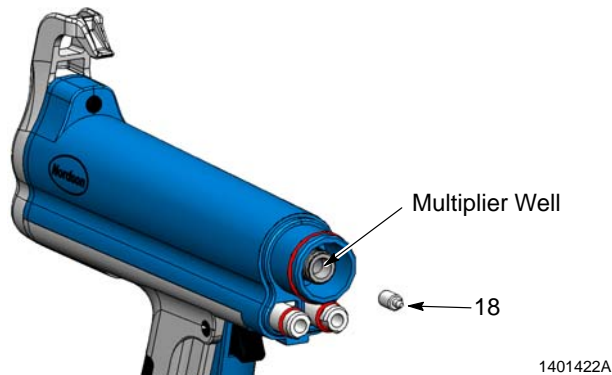

Figure 5 Removing Contact Spacer
5. See Figure 5. Remove the contact spacer (18) from the multiplier well. Wipe the dielectric grease off the contact spacer.
1. See Figure 5. Insert the contact spacer into the multiplier well. Fill the multiplier well with dielectric grease.